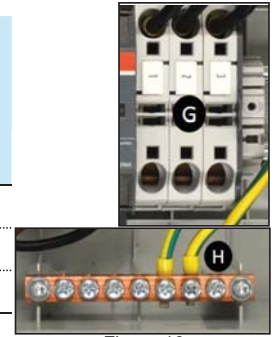

Figure 16
- Connect AC wiring to switch box terminal block **G** and the main AC ground cable to switchbox bus bar **H** shown in Figure 16.